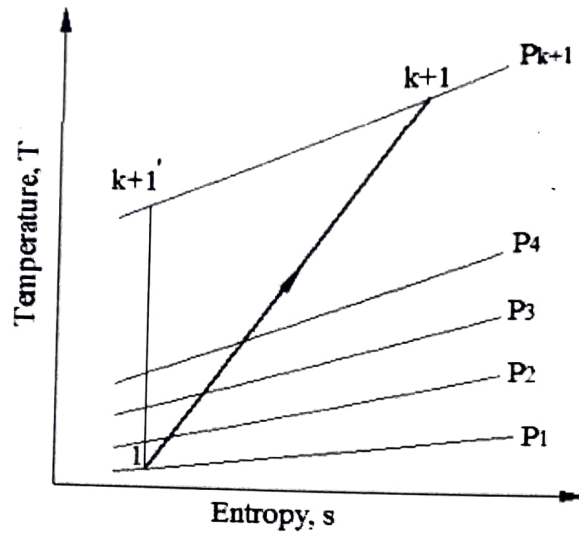

Fig. 3.6 Compression process in multistage compressor
**Answer:** The figure 3.6 shows the T-s diagram for compression process in multistage compressor operating between the pressures  $p_1$  and  $p_{K+1}$ . If there are  $K$  stages with the overall pressure ratio  $\frac{p_{K+1}}{p_1}$  and having equal stage efficiency and stage pressure ratio.